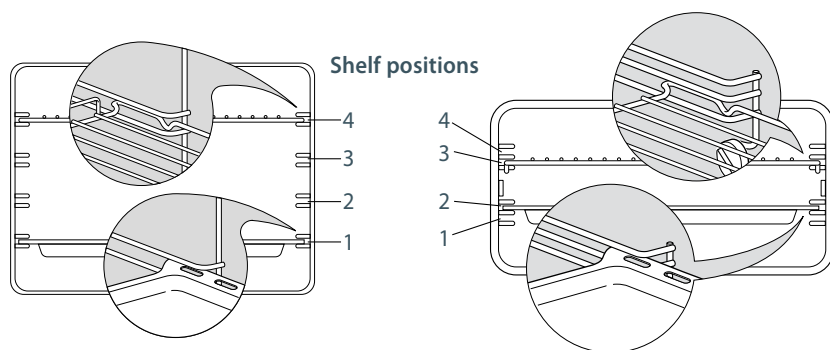

Fig. 5 Correct position of shelves and grill tray - full and compact ovens
- Slide in the shelf/shelves and grill tray as shown in Fig.5 below. Fit them between the metal wires of the side racks, with the safety stop notch down and at the back.